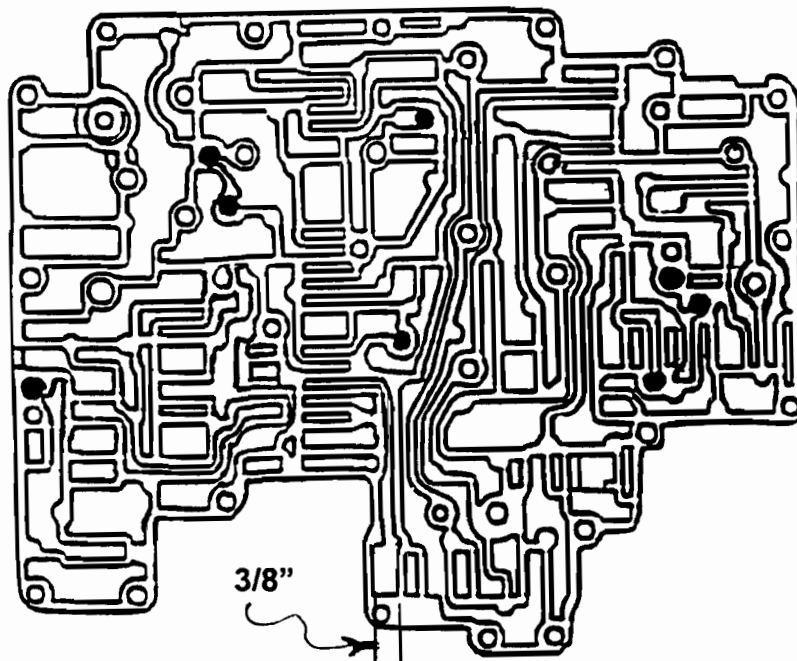
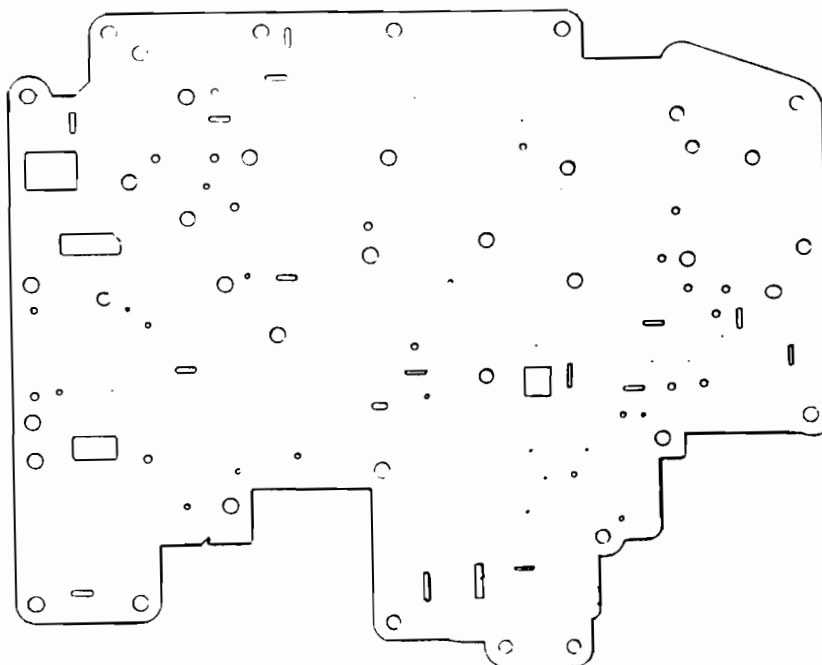

FIGURE 3
FIGURE 4
Manual Selector Indicator with D-2-1 and the Overdrive Cancel button has a  $\frac{3}{8}$ " wide passage by the manual valve Figure 3. In Figure 4 the separator does NOT have the two (2) holes above the manual valve location.